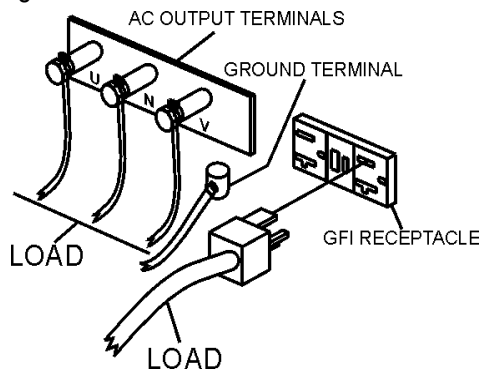

Figure 32. UVW Terminal Lugs (Load)
5. Remove the load from the UVW terminal strip (Figure 32).